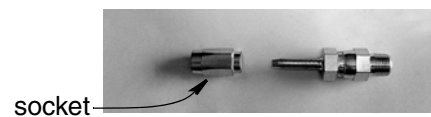

FIG. 91
3. Remove two hose fittings from their package and disassemble the two pieces (FIG. 91).